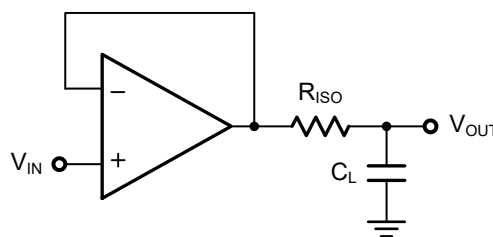
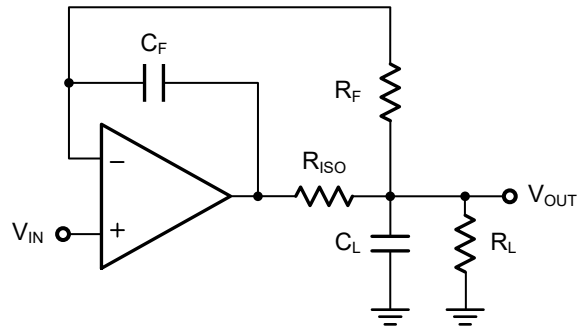

Figure 3-1 Indirectly Driving a Capacitive Load Using Isolation Resistor
Figure 3-2 Indirectly Driving a Capacitive Load with DC Accuracy
The SNA321H/358H/324H family is optimized for bandwidth and speed, not for driving capacitive loads. Output capacitance will create a pole in the amplifier’s feedback path, leading to excessive peaking and potential oscillation. If dealing with load capacitance is a requirement of the application, the two strategies to consider are (1) using a small resistor in series with the amplifier’s output and the load capacitance and (2) reducing the bandwidth of the amplifier’s feedback loop by increasing the overall noise gain. Figure 3-1 shows a unity gain follower using the series resistor strategy. The resistor isolates the output from the capacitance and more importantly, creates a zero in the feedback path that compensates for the pole created by the output capacitance.
The circuit in Figure 3-2 is an improvement to the one in Figure 3-1. R_F provides the DC accuracy by feed-forward the V_{IN} to R_L . C_F and R_{ISO} serve to counteract the loss of phase margin by feeding the high frequency component of the output signal back to the amplifier's inverting input, thereby preserving the phase margin in the overall feedback loop. Capacitive drive can be increased by increasing the value of C_F . This in turn will slow down the pulse response.